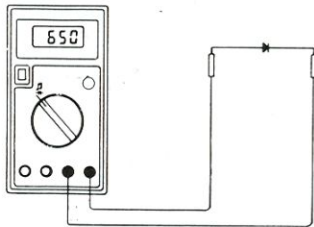

Fig . 5-6 Diode measurement
2. Set the FUNCTION switch to the $\rightarrow|+$ range and connect the test leads across the diode under measurement see Fig. 5-6.